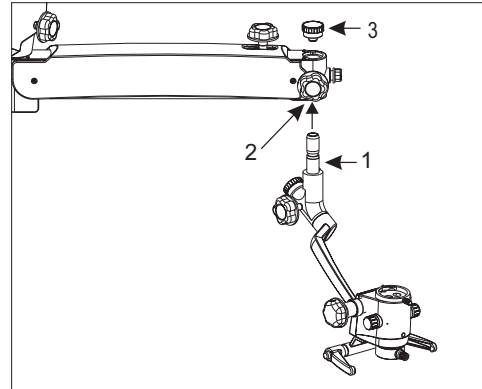

Fig. 5
7.4 Retrieve the inclined coupling assembly from the packing. Install the coupling to the suspension arm by sliding the guiding shaft (1) to the suspension arm. Make sure to loosen the locking screw (2) before sliding in the guiding shaft. Lock the inclined coupling with the threaded plug (3). See figure 5. Install all locking knobs to the suspension arm, inclined coupling and magnichanger locking knob.